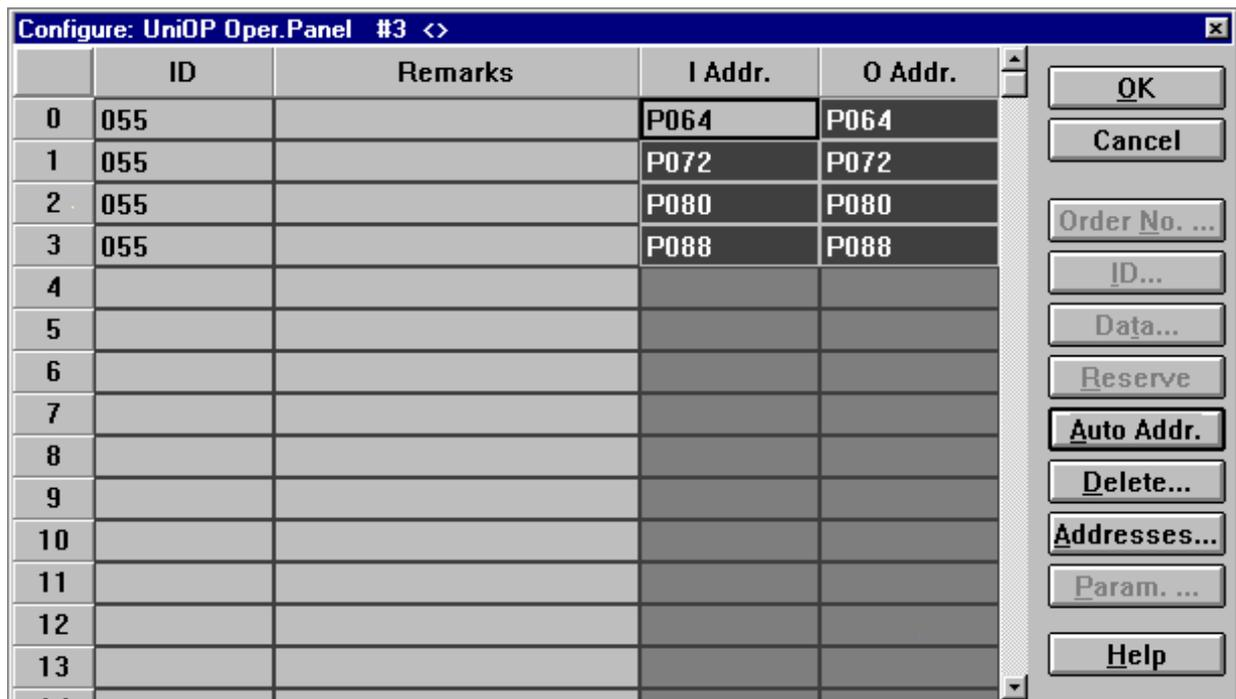

Figure 7 - Configure UniOP Dialog Box
Once you have done this you need to specify the Input and Output addresses that will be reserved for this UniOP panel in the Master PLCs memory and the error reporting for the Slave. You do this via the Configure UniOP dialog box as shown in Figure 7.
1. You must define Input and Output addresses for all enabled Input and Output blocks. You can use the 'automatic addressing' mode for a quicker configuration. Figure 7 shows a configuration in which 32 byte buffer size has been selected.
2. The active sections of the Input area must be placed sequentially and must each be 8 bytes long. (If you use the 'automatic addressing' mode this is handled automatically.) As an example see Figure 7., here the Input address of the first block is set to P000, that of the second block is set to P008 (0+8), that of the third block to P016 (8+8) and that of the fourth block to P024 (16+8). A similar consideration applies to the Output area as can also be seen from Figure 7.